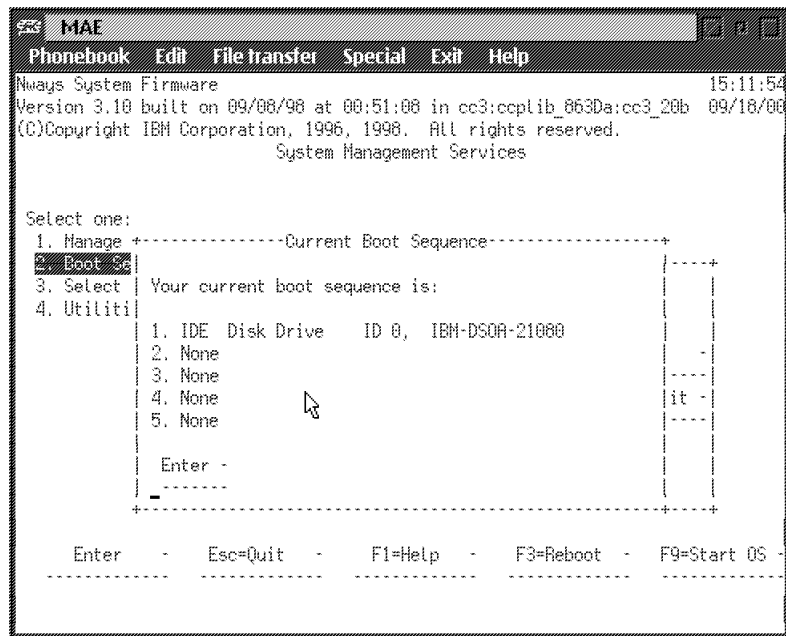

Figure 5-4. Current Boot Sequence
**Note:** To restore the defaults, select option 7 before you reboot the multiaccess enclosure. The default boot device settings will then be restored. The Current Boot Sequence will be displayed as in Figure 5-4 on page 5-8.